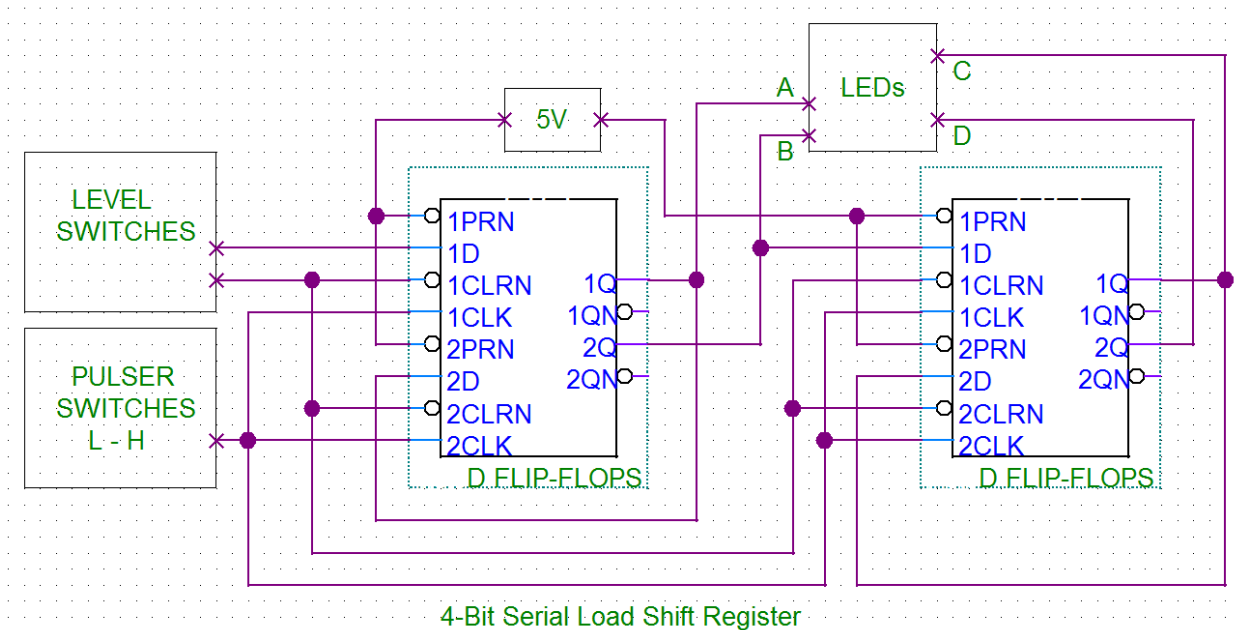

Figure 1
1.1. Use the datasheet and label the input and output pins on the logic diagram in Figure 1.
1.2. Build the circuit in Figure 1. Use the Level Switches to toggle the inputs (Data and Clear) and the Pulser Switch to clock the FF. Notice the Clear is active LOW and will reset all Q outputs to LOW. All Presets are tied HIGH.